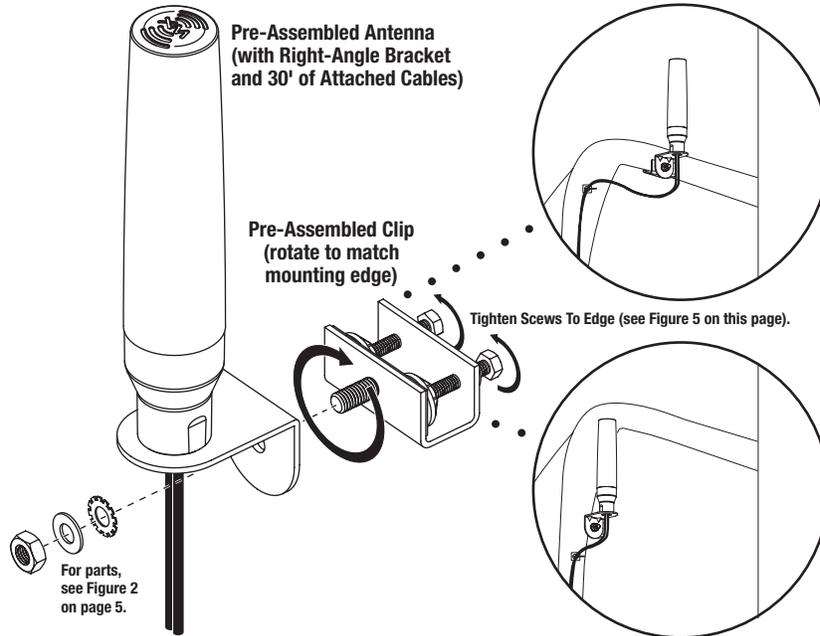

Figure 4. Installing the TERK XM4-CLIP antenna to the clip.
1. Using the enclosed hardware, install the pre-assembled antenna and bracket onto the bolt of the pre-assembled clip (see Figure 4 on the next page).